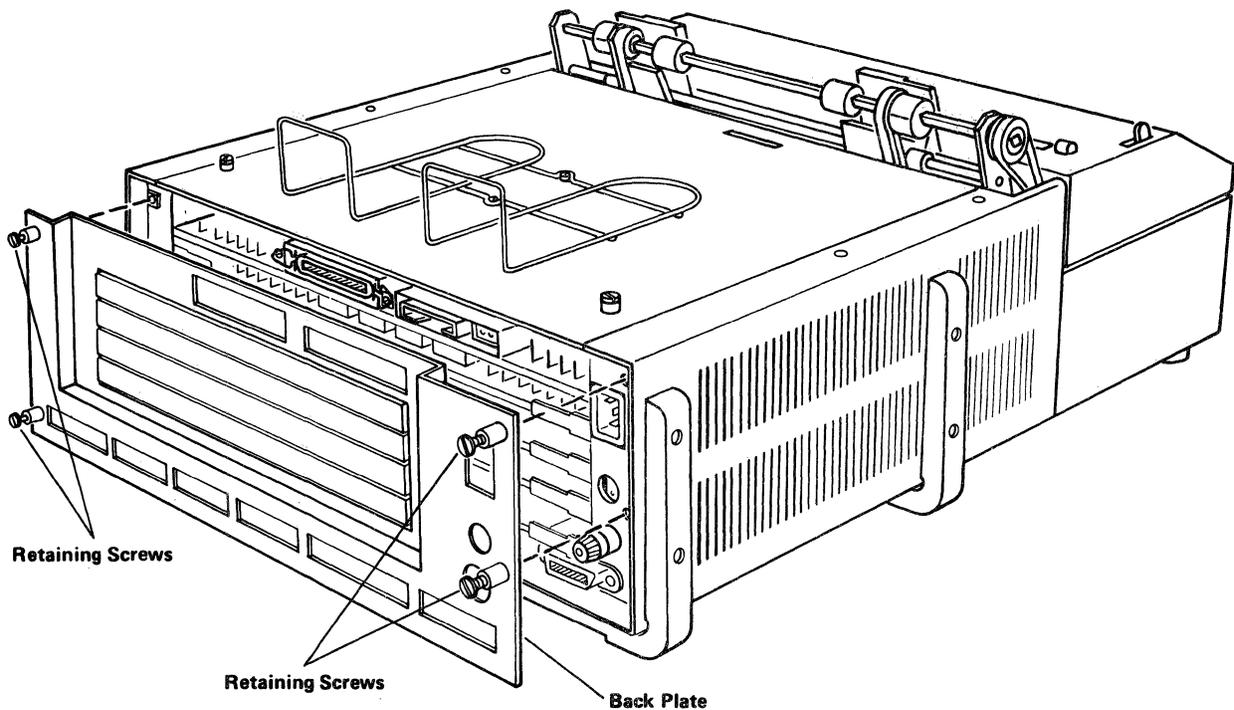

Figure 4-4. Processor Unit Back Plate.
7. Remove the back plate from the processor unit by loosening the four (4) retaining screws at the four corners of the plate and pulling it away (See Figure 4-4).
17. Place the back plate on the processor unit and secure it using the four (4) retaining screws at the four corners of the plate. Be sure that the connector spring clips are not behind the back plate. (See Figure 4-4).